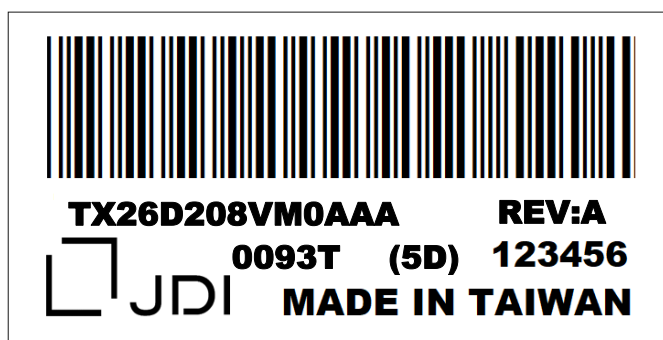

Fig. 13.2
- 4) The location of the lot mark is on the back of the display shown in Fig. 13.2